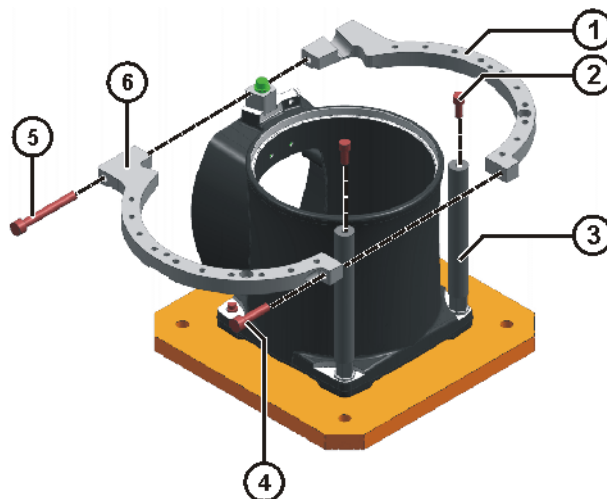

Fig. 8-2: Fastening support segments
3. Position support segment part 1 on the right-hand side of the base frame (viewed from the component) (>>> Fig. 8-2).